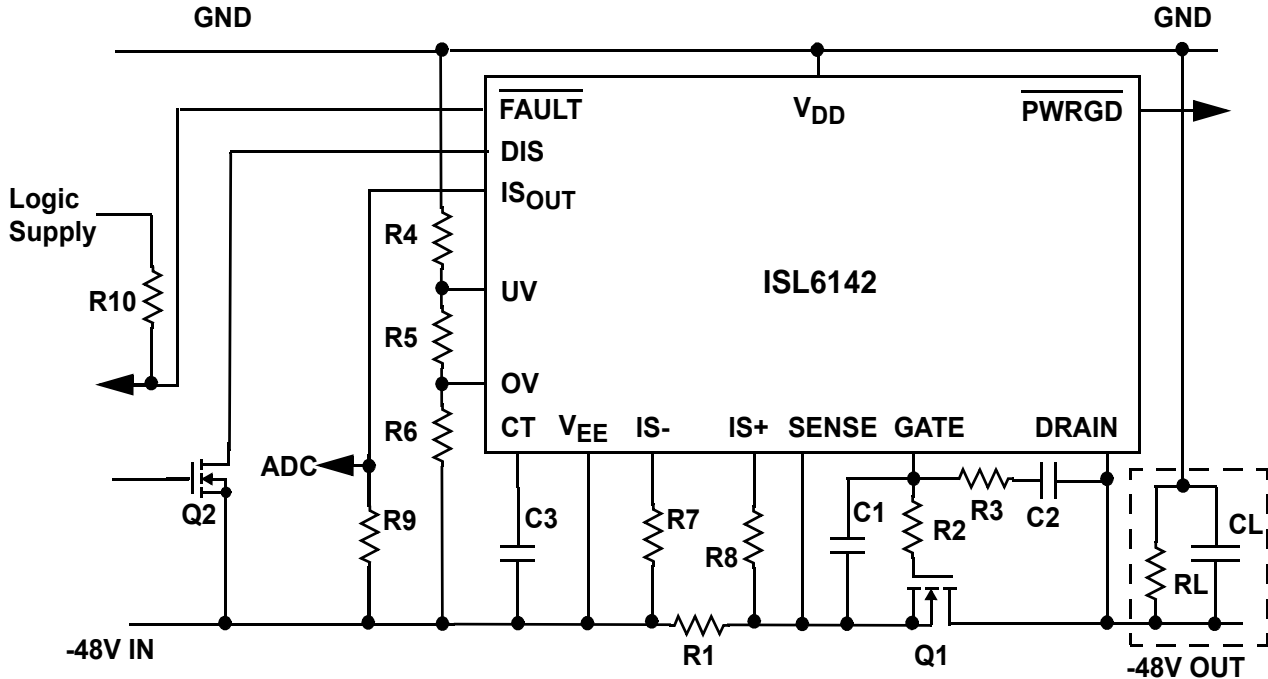

FIGURE 29. TYPICAL APPLICATION WITH MINIMUM COMPONENTS
(See fig 29 for reference)
The values of R4 = 549K, R5 = 6.49K, and R6 = 10K shown in figure 29 set the Under-Voltage threshold at 43V, and the Over-Voltage, turn off threshold to 71V. The Under-Voltage (UV) comparator has a hysteresis of 135mv's (4.6V of hysteresis on the supply) which correlates to a 38.4V turn off voltage. The Over-Voltage comparator has a 25mv hysteresis (1.4V of hysteresis on the supply) which translates to a turn on voltage (supply decreasing) of approximately 69.6V.